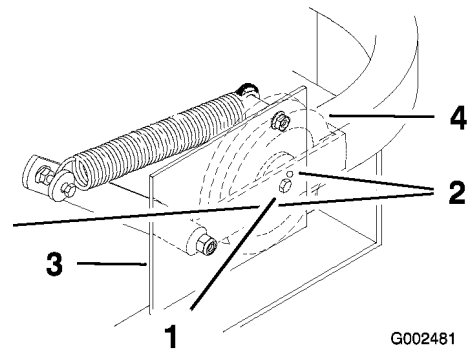

Figure 51
Important: Check and make sure the belt is installed into both the front and rear belt guides (Figure 51).
4. Check the belt tension. The spring loaded idler center bolt needs to be near the top alignment hole in left support plate (Figure 51).